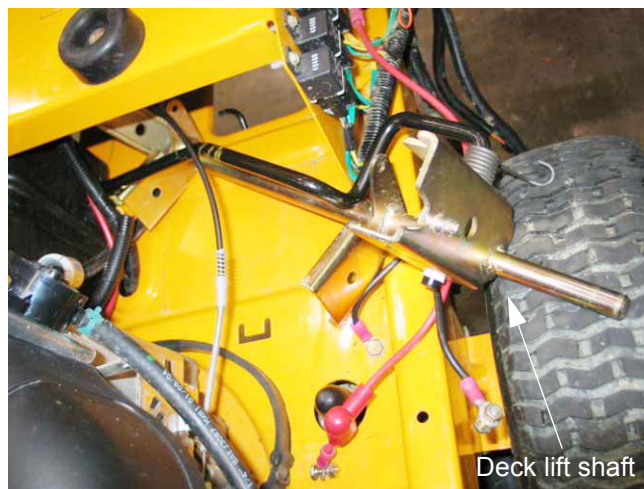

Figure 14.19
14.19. From this point the deck lift shaft and deck lift handle will slip off the rear of the unit where the battery was. See Figure 14.19.